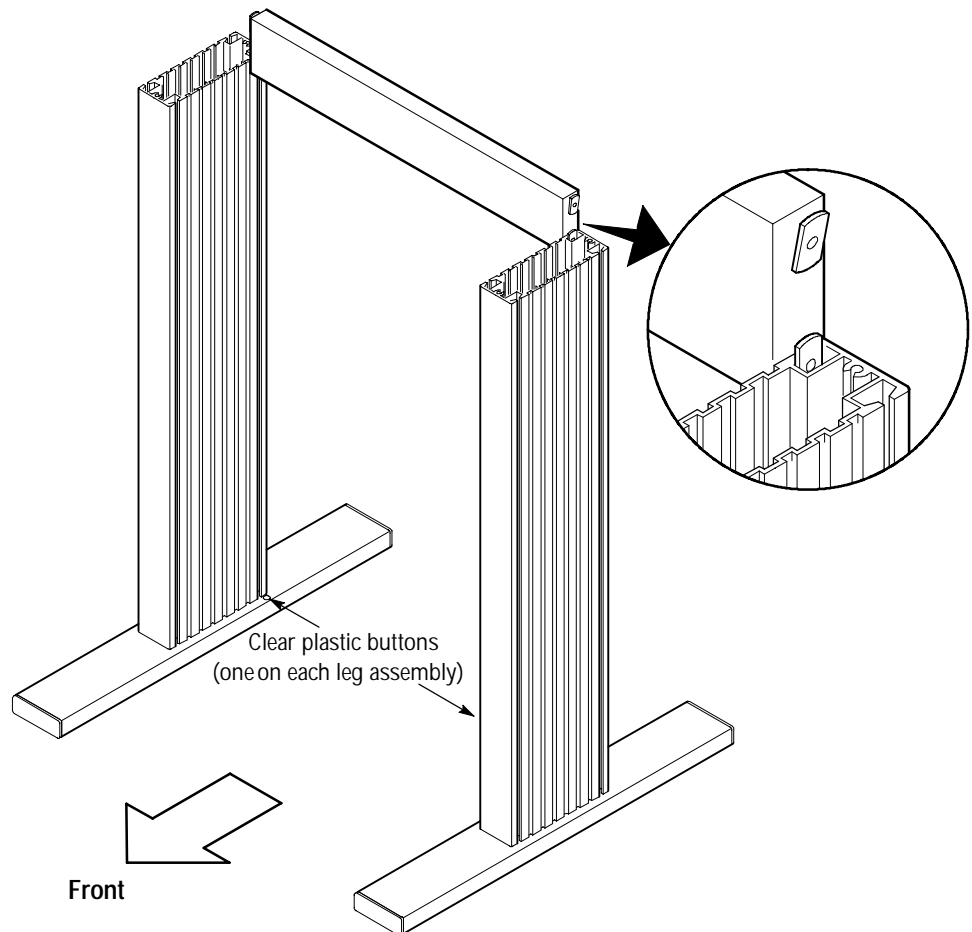

Figure 4a: Aligning the Leg Assemblies and the Strut
7. Position the strut horizontally between the leg assemblies, as shown in Figure 4a, with the open side of the strut to the back. Line up the weld nuts with the back groove in the leg assemblies.